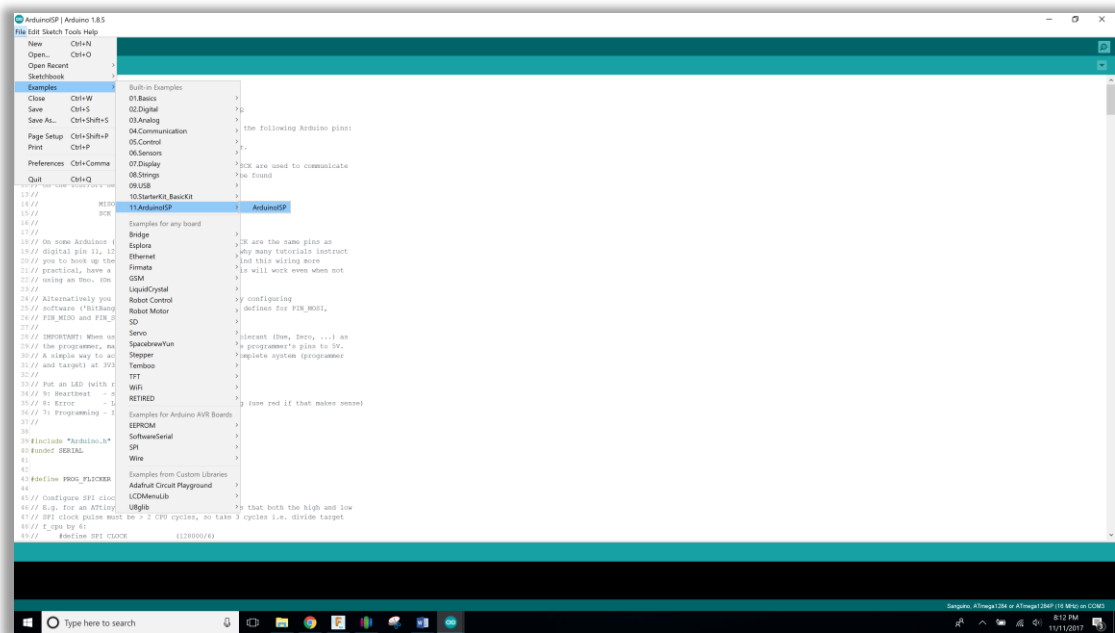

Figure 4: Arduino IDE opening Arduino ISP
9. Open Arduino IDE (Figure 4)